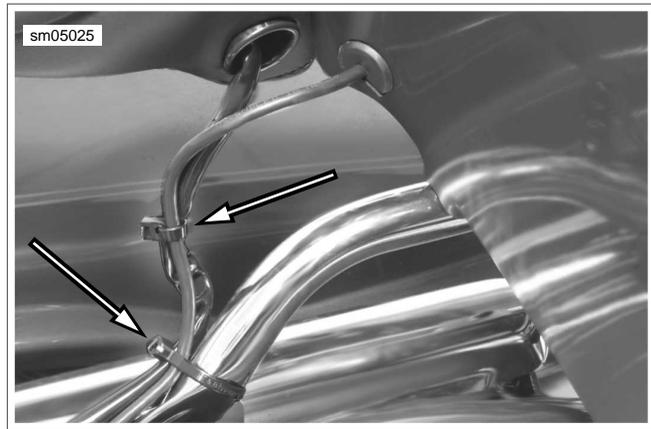

Figure 8-127. Capture Audio Harness and CB Antenna Cable
6. Loosely install **new** cable strap to secure CB antenna cable and audio harness conduit to luggage rack rail. Loosely install **new** cable strap to secure CB antenna cable to speaker/passenger controls conduit. See Figure 8-127.